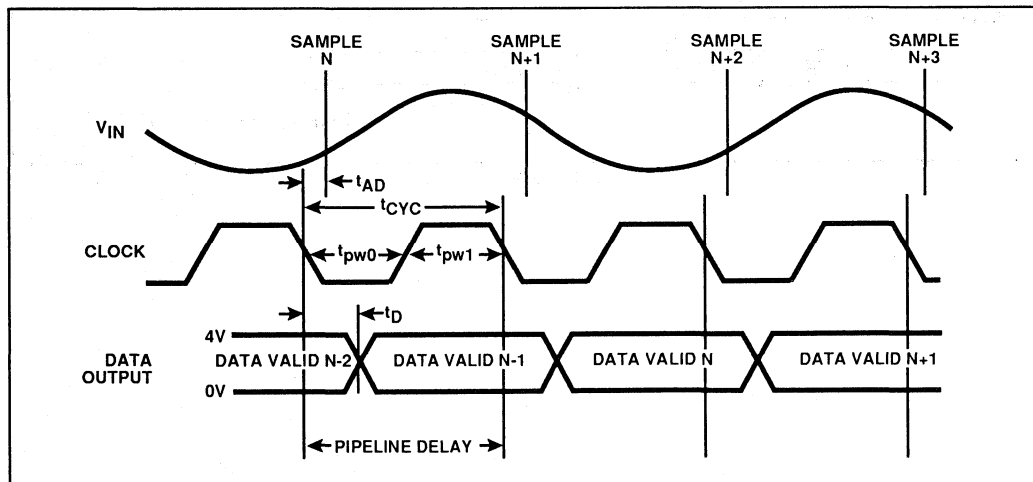

Fig.7 Timing diagram
**TIMING (Fig.7)**
The analog input is sampled by the SP973T8 approximately 3ns ( $t_{AD}$ ) after the falling edge of the clock. Due to the pipeline operation of the device, a further one clock cycle is required to produce the output data. As shown in Fig.7, the output has a good data valid time, enabling the data to be latched at both the rising and falling edges of the clock.